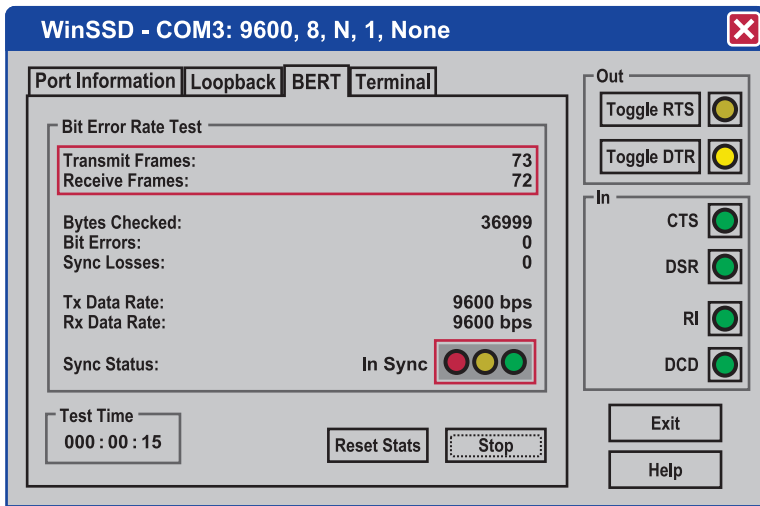

Figure A-4. Calculated data rate.
- If the COM port is working properly, the green light will glow and the Transmit Frames and Receive Frames will increase. The Tx and Rx Data Rates will show the calculated data rate (see Figure A-4).